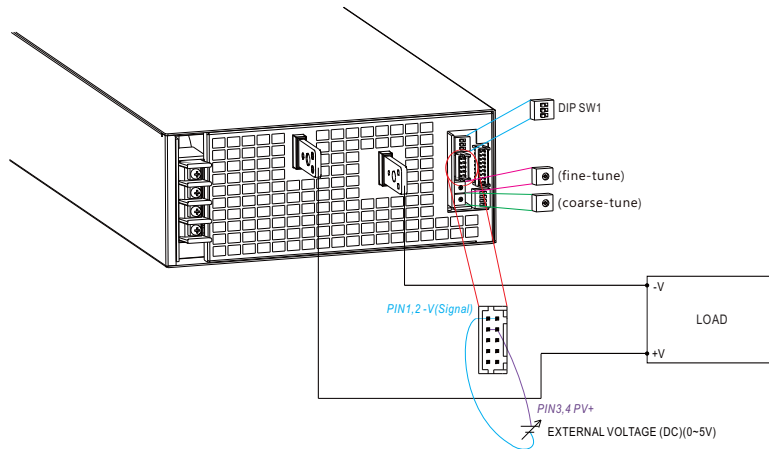

Figure 5-2
B. Connect output of the external DC source to PV+ and -V(signal), as shown in Figure 5-2.